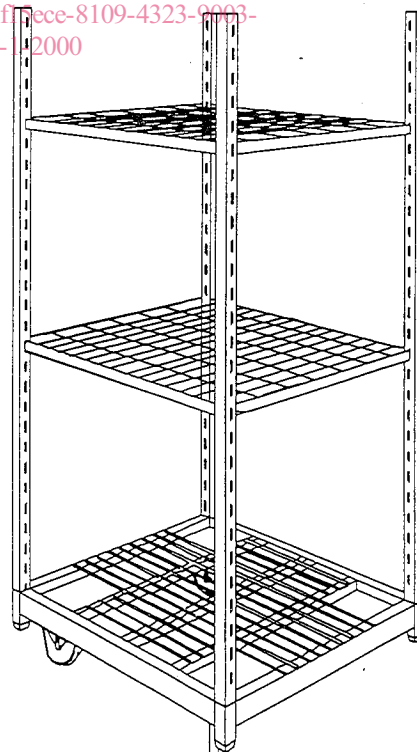

Figure 2: Demountable style, post form with corner posts and open shelves ready for use
**3.1.1 Demountable style, post form:** Form incorporating locking or free fitting posts and shelving. An example is shown in Figure 2